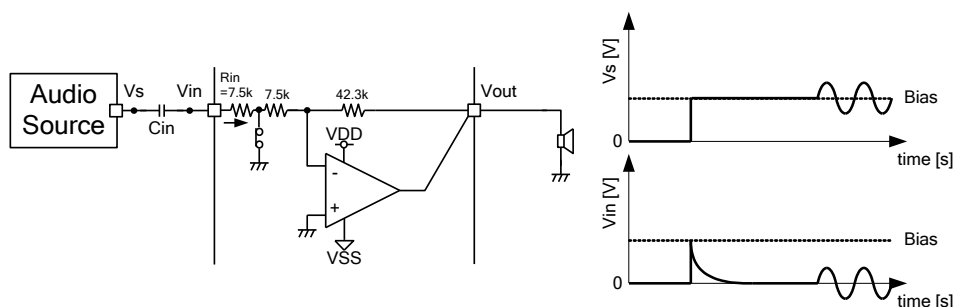

Figure 31. Fluctuation of input terminal voltage when charging input coupling capacitor
When power supply (PVDD, SVDD) is applied, it is started that charging input coupling capacitors. Therefore, the input terminal voltage "Vin" is changed as following Figure 31. Time constant " $\tau$ " of charging input coupling capacitor is decided by input coupling capacitor  $C_{in}$  and Internal input impedance  $R_{in}$  (See formula (1)). Internal impedance  $R_{in}$  in term of shutdown is  $7.5k\Omega$  (typ) for making time constant  $\tau$  shorten. If "SDB" is changed "L" to "H" (shutdown ON -> OFF) during input DC voltage ( $V_{in}$ ) is changing, pop noise may occur. It is recommended that shutdown ON -> OFF ("SDB" : L -> H) after  $5\tau \sim 6\tau$ .